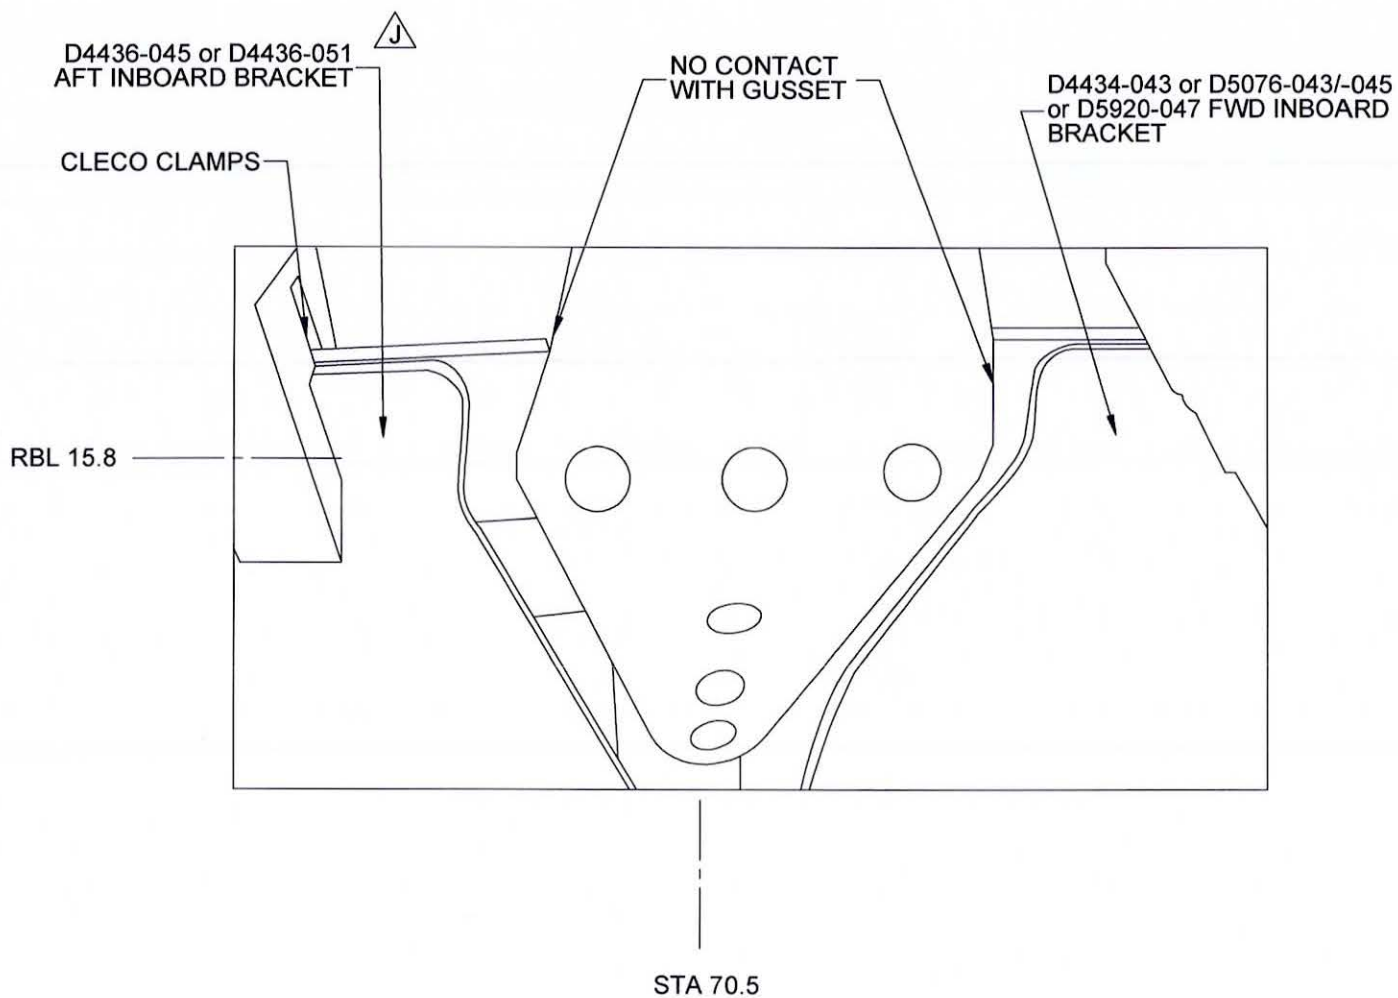

Figure 5. D4436-045/-051 & D4434-043 or D5076-043/-045 or D5920-047 Brackets Installation △ J
- 4.2 Temporarily install D4434-043 or D5076-043/-045 or D5920-047 Fwd Inboard Bracket and D4434-045 or D5920-045 Fwd Outboard Bracket using clecos and cleco clamps. Confirm there is no contact between D4436-045/-051 Aft Inboard Bracket and D4434-043 or D5076-043/-045 or D5920-047 Fwd Inboard Bracket and main beam gusset as shown in Figure 5.